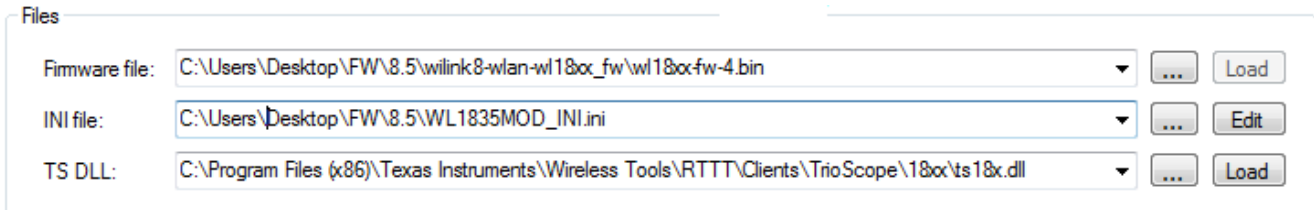

Figure 4-2. Selecting the Firmware Files to Download
- a. Click the firmware and INI file path and browse to the location of the file, as shown in Figure 4-2.